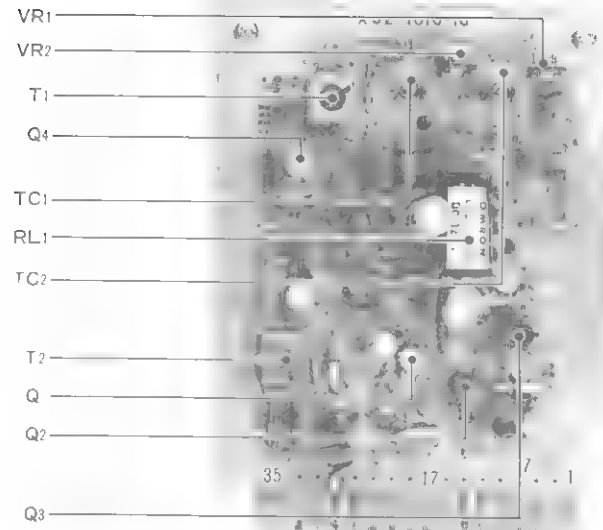

FIGURE 16. GEN Board
5.4 GEN (Generator) BOARD (X52-1010-10) (See Figure 16)